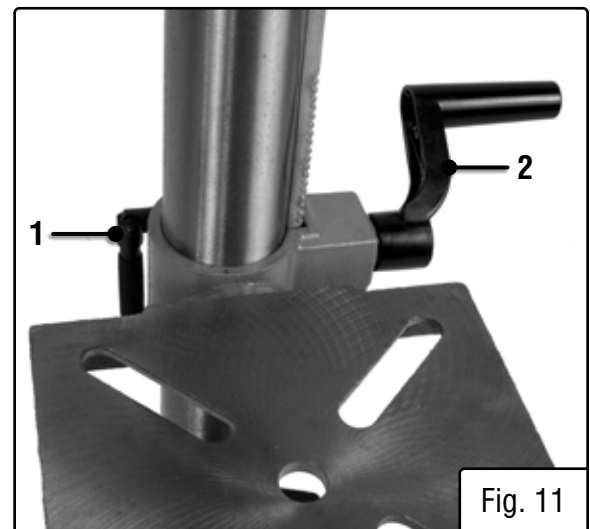

Fig. 11
RAISE AND LOWER THE TABLE (FIG. 11)
1. Loosen the support lock handle (Fig. 11 - 1) and turn the crank handle (Fig. 11 - 2) until the table is at the desired height.
ROTATE THE TABLE (FIG. 11)
1. Loosen the support lock handle (Fig. 11 - 1) and turn the table around the column to the desired position.